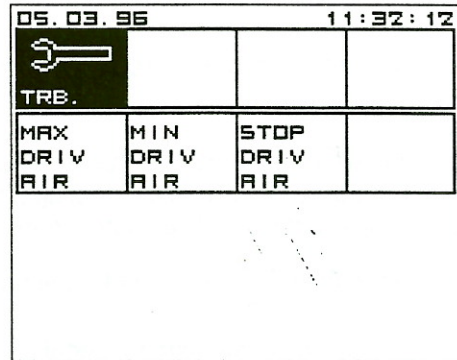

Figure 20. Turbine driving air 1.
- 2) Press the P-button twice and choose (Fig. 20): A2 for maximum or B2 for minimum.